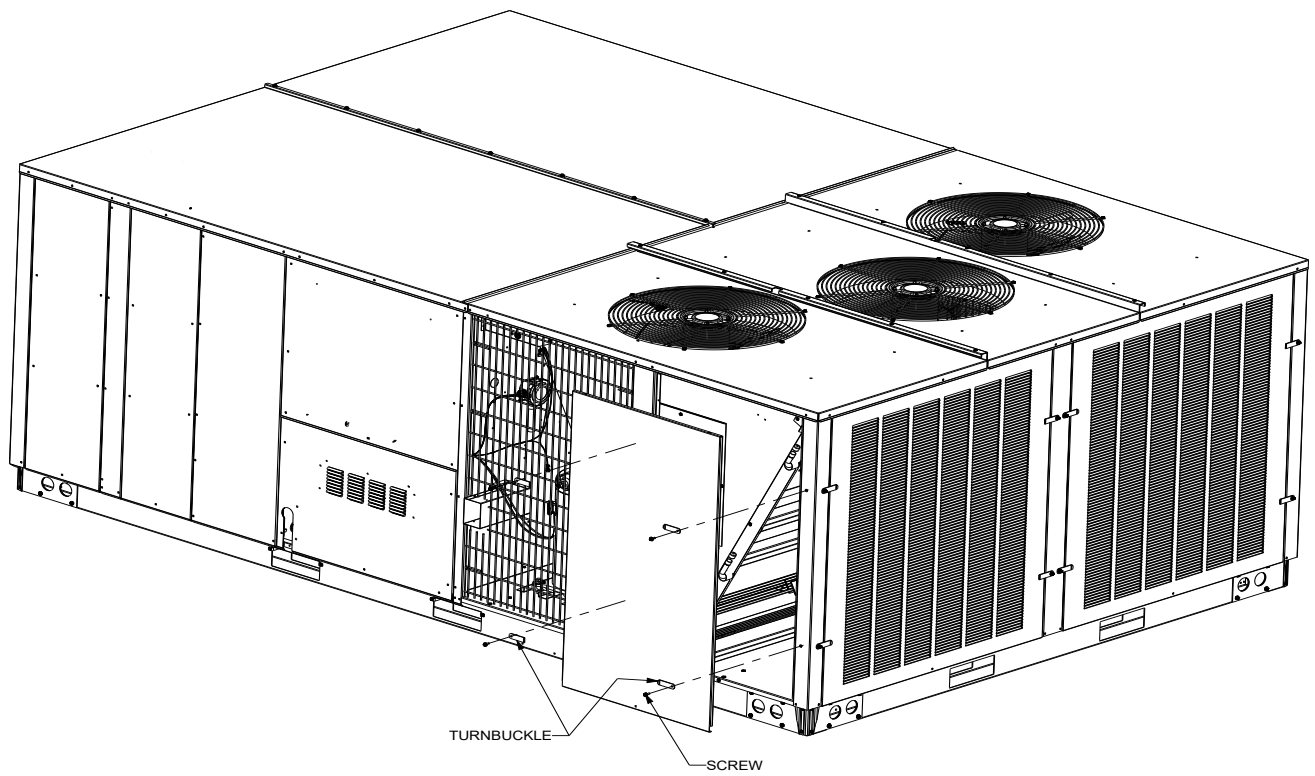
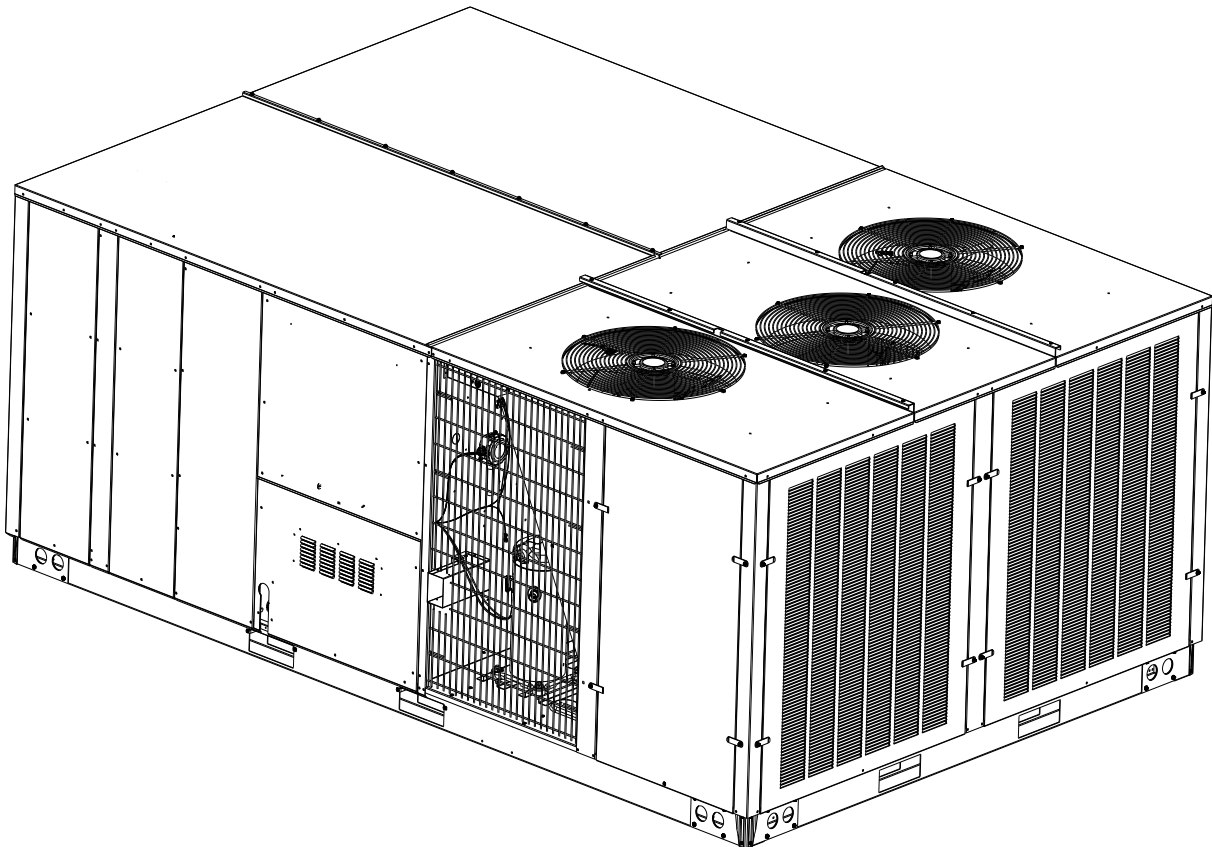

Figure 3
Figure 4
4. Then rotate the turnbuckle brackets so the long end of the bracket is against the Hail Guard. Hold the turnbuckle bracket in place and fully seat the screw or the bracket will rotate around. See Figure 3 for proper bracket orientation. See Figure 4 for completed installation.